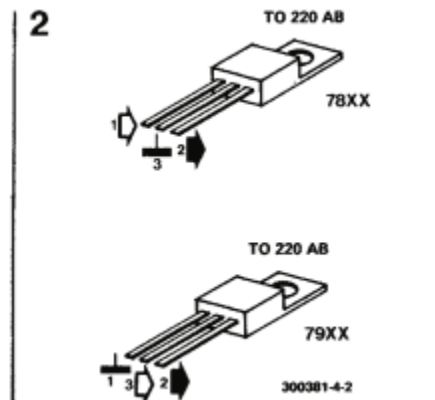
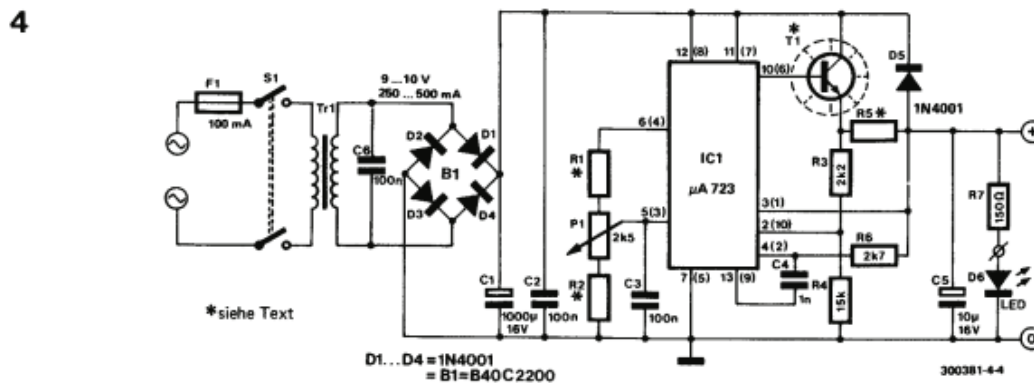

Figure 2. Pinout of the 78xx and 79xx fixed-voltage regulators in a TO-220 package
Figure 4. Schematic diagram of the adjustable +5 V power supply.
VCOs or other synthesizer circuits housed in additional module enclosures—particularly those utilizing (LS) TTL ICs (e.g., digital sequencers)—require a +5 V power source (preferably adjustable) in addition to the standard +15 V / -15 V supply. For this application, a circuit based on the inexpensive and proven μ A723 IC was selected (Figure 4). This adjustable integrated voltage regulator exhibits exceptionally good specifications regarding temperature stability and ripple rejection. The circuit design is identical to the +5 V rail of the power supply unit found in the FORMANT series. Here, too, the output current is "boosted" by means of a power transistor (T1).
Bill of Materials for Figure 4
Figures 2 and 3 illustrate suggested front panel layouts. The wiring for the supply voltage indicator LEDs is shown in Figure 4. When designing a module enclosure for the FORMANT—particularly to accommodate potential expansion circuits—provision for strain relief on the power cord should not be omitted. This point requires particular attention in cases of (semi-)professional use or frequent transport. A cost-effective and practical solution is illustrated in the sketch in Figure 5. A three-conductor power cord with sufficiently robust insulation is recommended for this application.
Figure 2. Proposed front panel design for a power switch. This front panel is intended for FORMANT configurations equipped with a COM module. To prevent unauthorized persons from performing improper work on the FORMANT, the warning label reads (in essence): "CAUTION: Do not remove the front panel. Entrust service work to qualified personnel! Disconnect the power plug before replacing the fuse."
Figure 4. Circuit extension for the visual indication of the various supply voltages. Since expansion module enclosures typically do not require a dedicated interface receiver, no separate "Gate" LED is necessary—unlike the LED indicators found on the COM module.